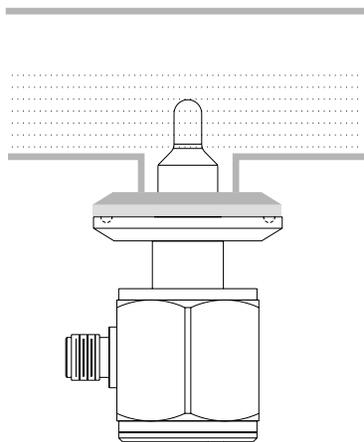

Fig. 3
- (3). When the pipe is not fully filled with liquid, SPS must be installed underneath the pipe, and liquid level has to be higher than the sensing probe. (See Fig. 3)